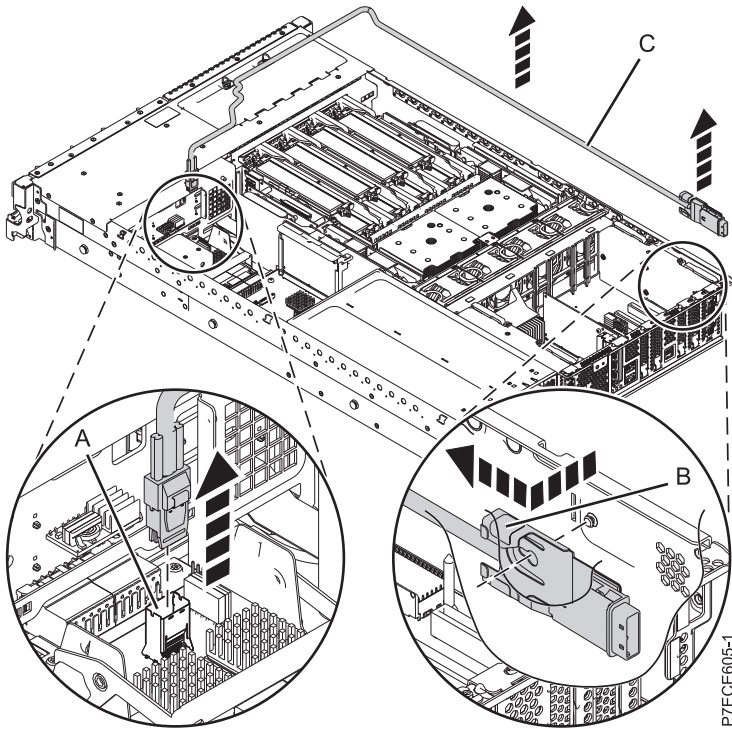

Figure 2. Removing the external SAS port
- 1) Press the side tab **(B)** and pull out the SAS shroud from the external SAS connection port on the disk drive backplane. See Figure 2 on page 8.